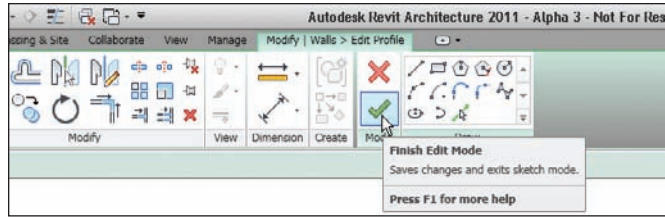

FIGURE 4.41 Click Finish Edit Mode to get back to the model.
6. On the Mode panel of the Modify | Walls > Edit Profile tab, select the Finish Edit Mode button, as shown in Figure 4.41.